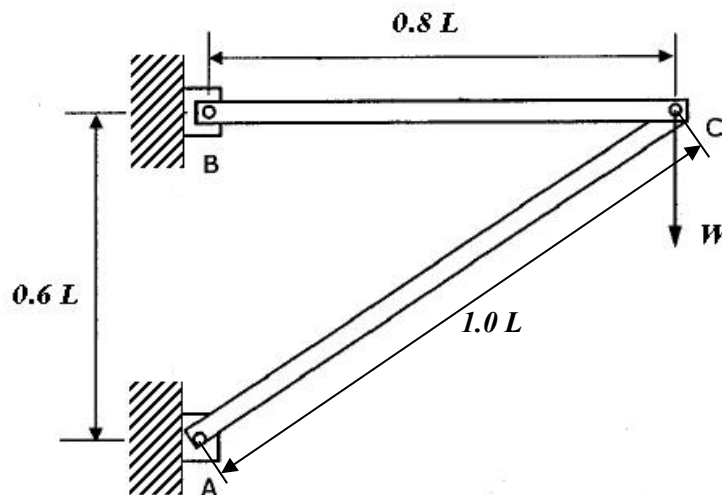

Fig. Q4
4. A pin-jointed structure, ABC, shown in Figure Q4, is subjected to a vertical load W at joint C. The struts, BC and AC, in the structure, are made from solid circular bar of diameter d , and the material has the modulus of elasticity E .